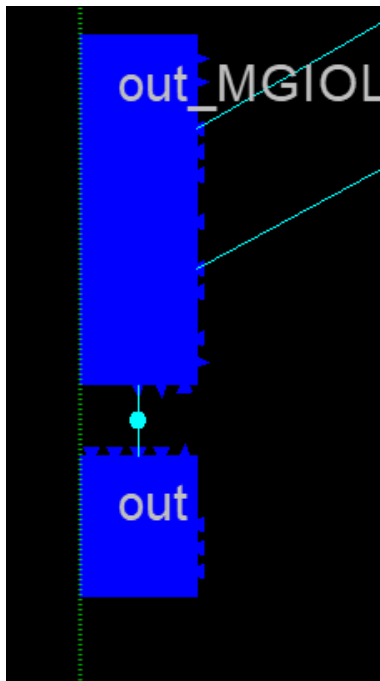

Figure 3.29. Routing Mode Showing the Attribute is Honored
4. With this implementation, post PAR shows that the tool has honored the attribute as shown in Figure 3.29.